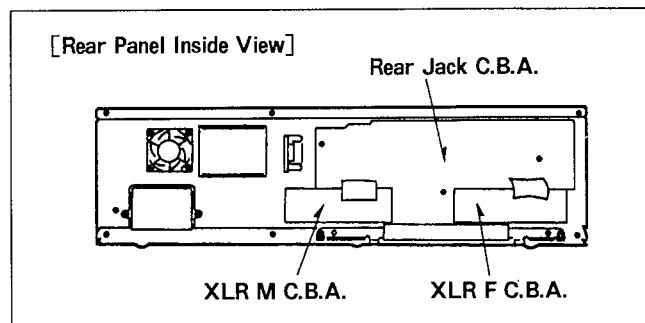

Figure D10
1. Unscrew the 8 screws (G-1) and remove the XLR F C.B.A. (Figure D10 and D11)
2. Unscrew the 8 screws (G-2) and remove the XLR M C.B.A. (Figure D10 and D11)
1. Unscrew the 14 screws (H-1) and 4 screws (H-2). (Figure D10 And D12)